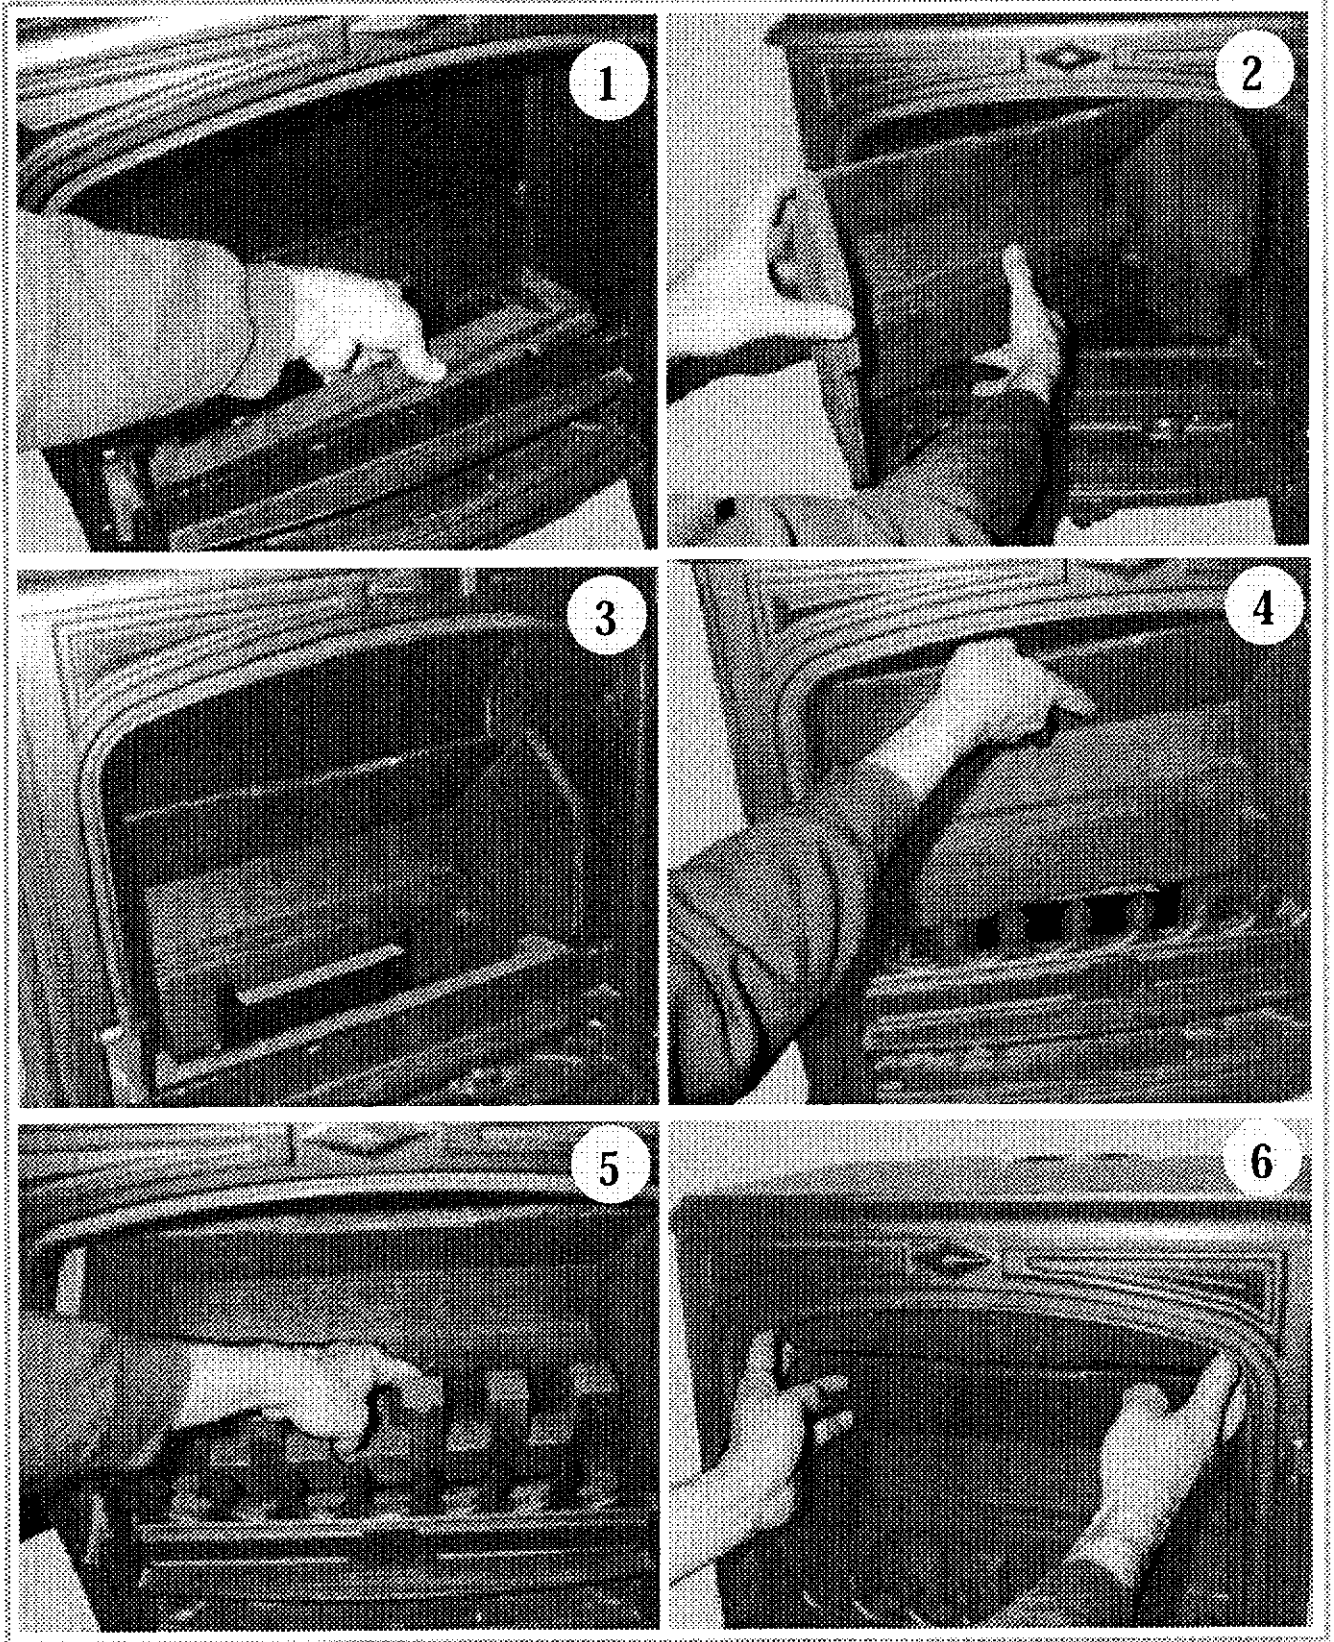

Figure 12 - Put back into position the refractory elements
- Put back correctly into position all the components (fig. 12).